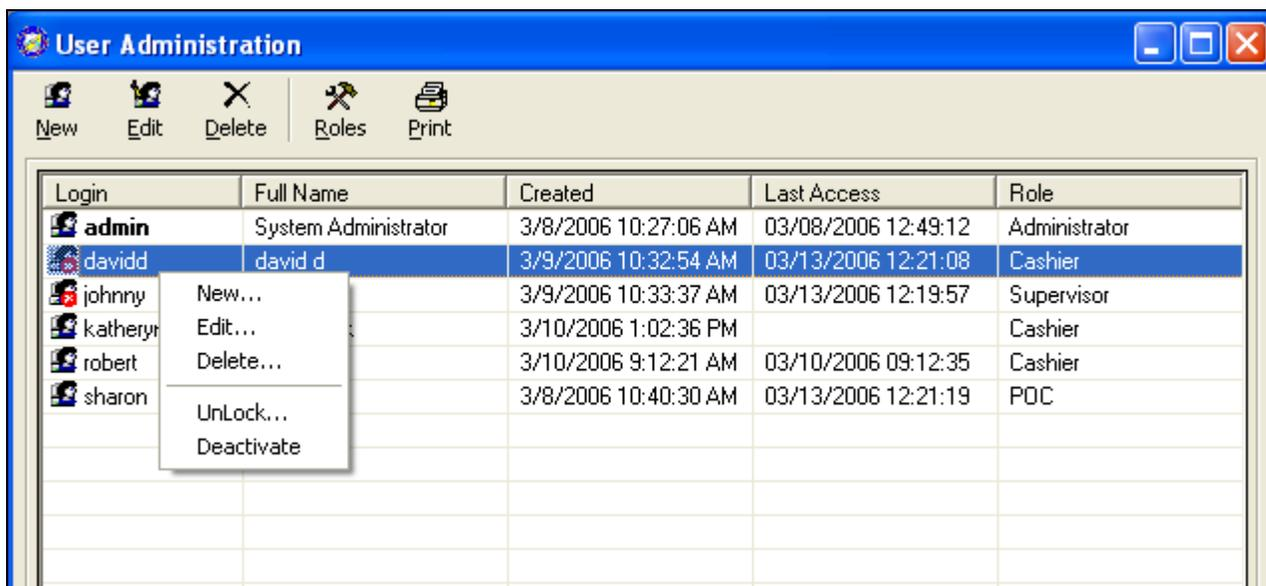

Figure 3.15
- To unlock, a user's account, right-click on the user's login. A drop down menu appears with choices as seen in Figure 3.15.